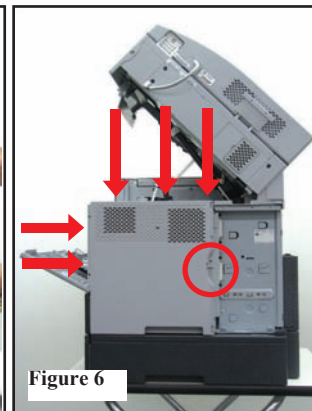

Figure 6
10. Remove rear right panel by removing one screw and prying at the 5 pry points (arrows on panels) then lift out. (Figure 6)